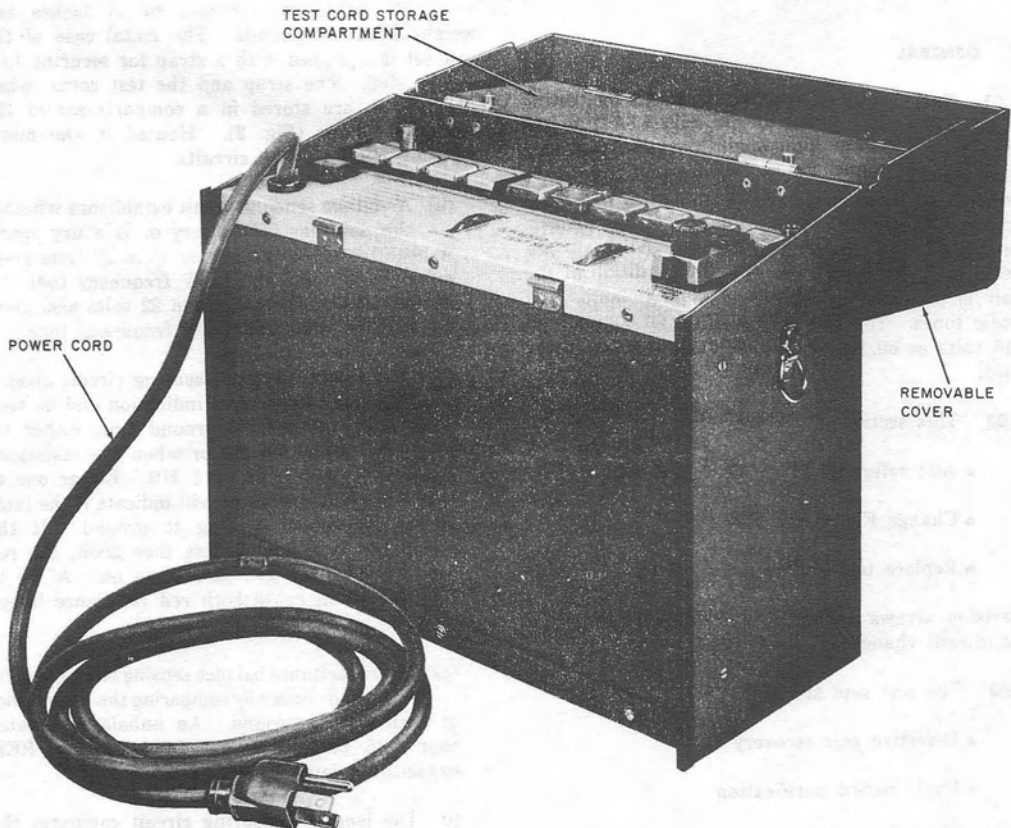
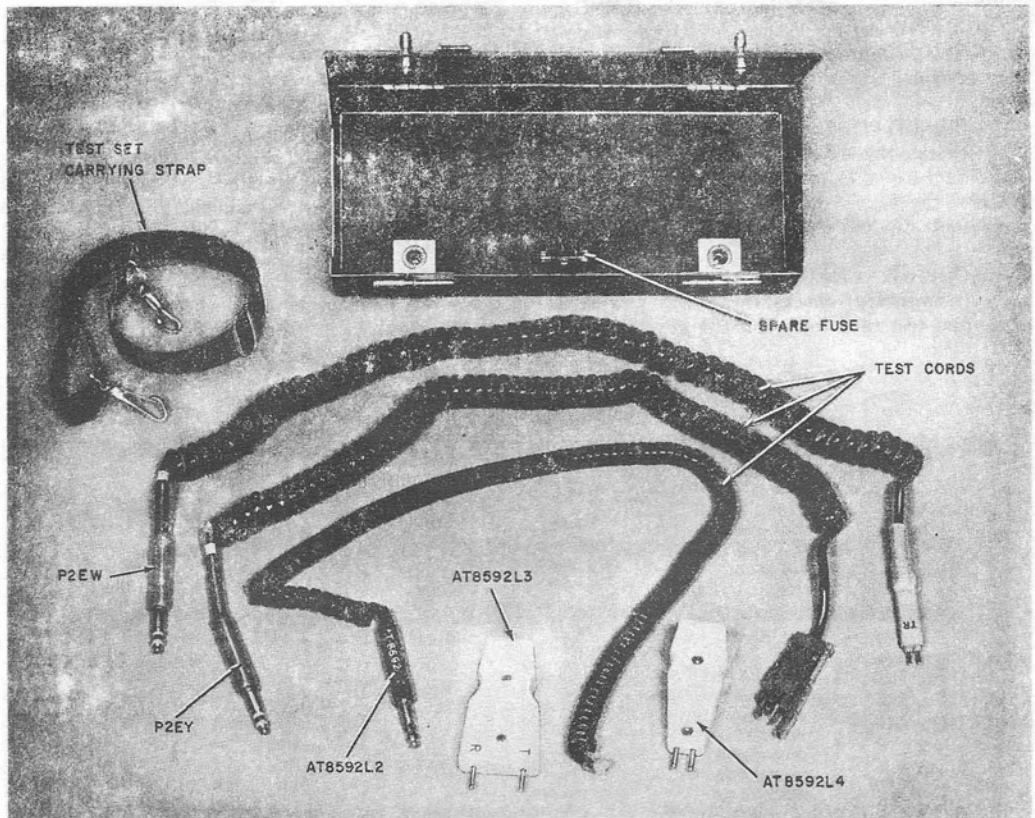
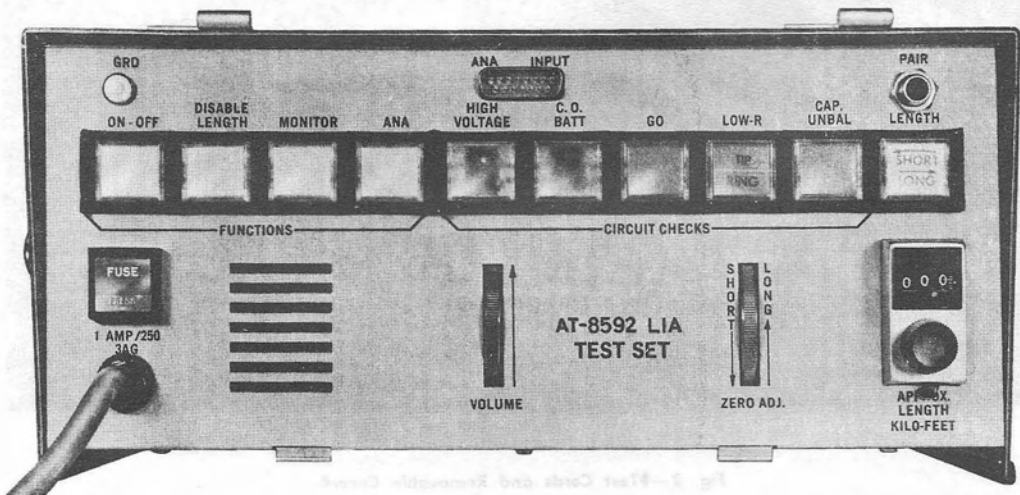

Fig. 1—AT-8592 Pair Tester
Fig. 2—Test Cords and Removable Cover
Fig. 3—Front Panel AT-8592 L1B
2.01 This compact test set (Fig. 1) is approximately 12 inches by 6 inches by 11 inches and weighs about 10 pounds. The metal case of the test set is equipped with a strap for securing to a ladder step. The strap and the test cords, when not in use, are stored in a compartment of the removable cover (Fig. 2). Housed in the metal case are the following circuits:
- Change Fig. 2 and Fig. 3
2.02 The following controls are located on the front panel of the set (Fig. 3)